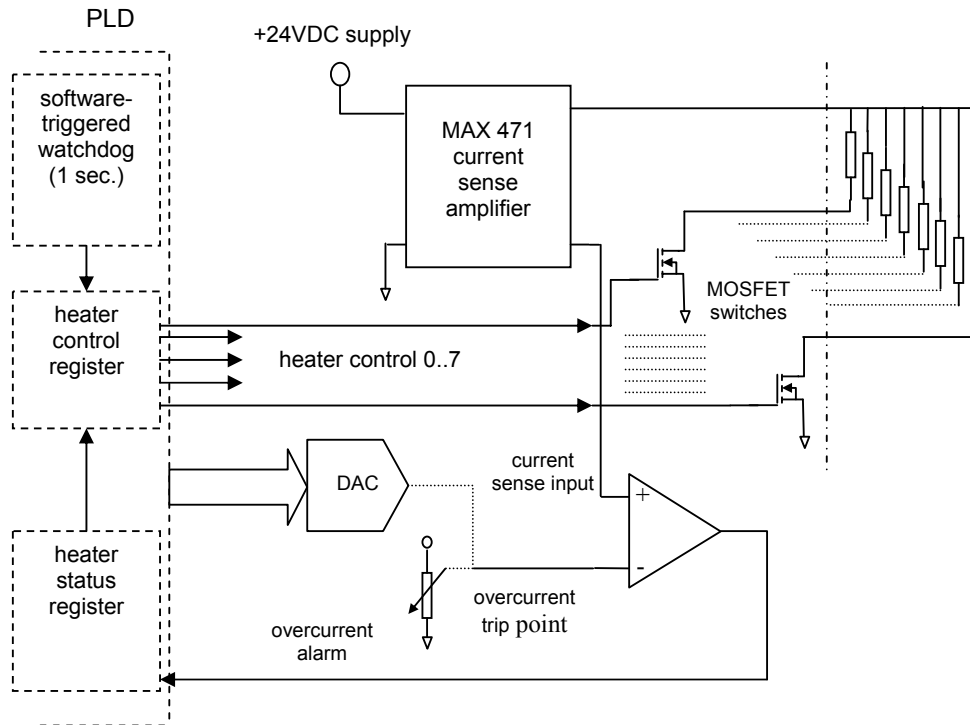

Fig. 7: heater control
- Comparison of heater current with trip point. This is implemented in hardware (see Fig. 7), whereby the trip point can be fixed (potentiometer) or set by software (DAC). The selection between hardware and software settings is made by means of solder jumper on the peripheral board.